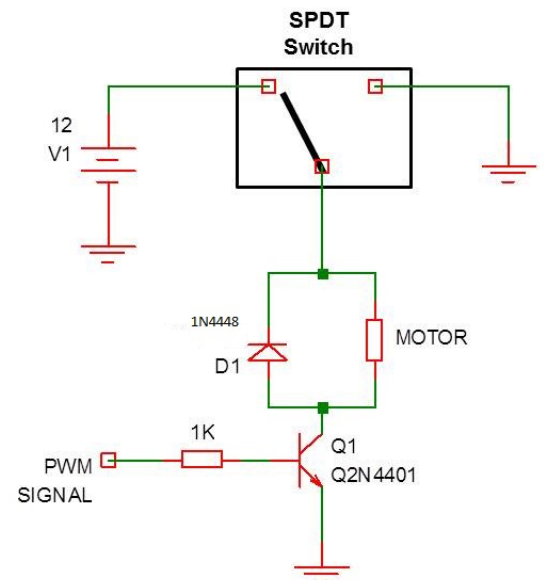

Fig. 3: PWM-driven transistor switch to control the speed of a DC motor.
- Step 2a: Build the motor control circuit shown in Fig. 3.